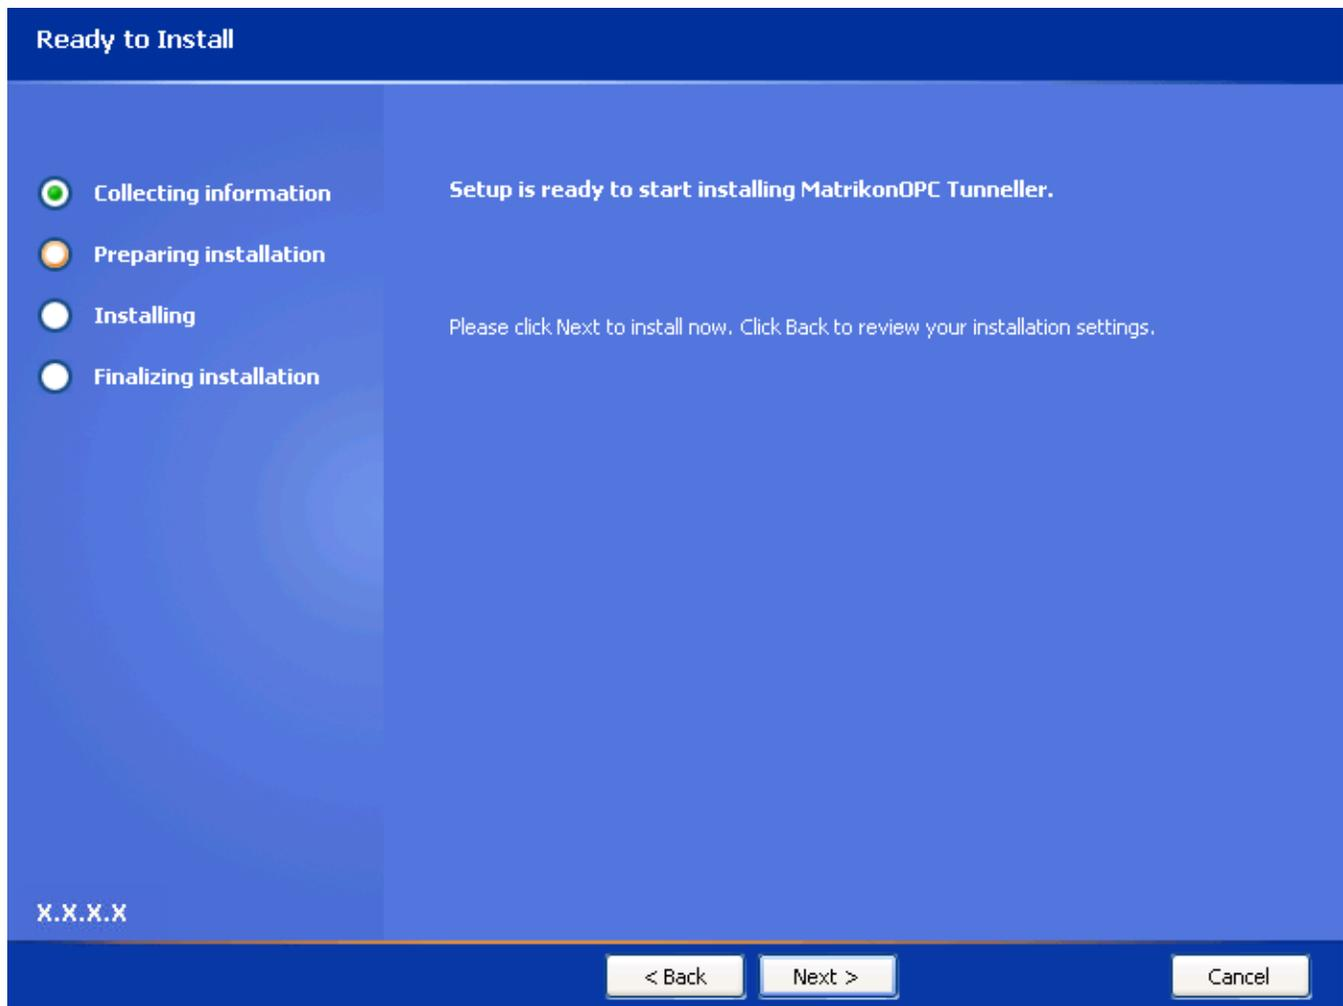

Figure 30 - Ready to Install Screen
20. Click on the **Next** button. The **Ready to Install** screen (Figure 30) appears.